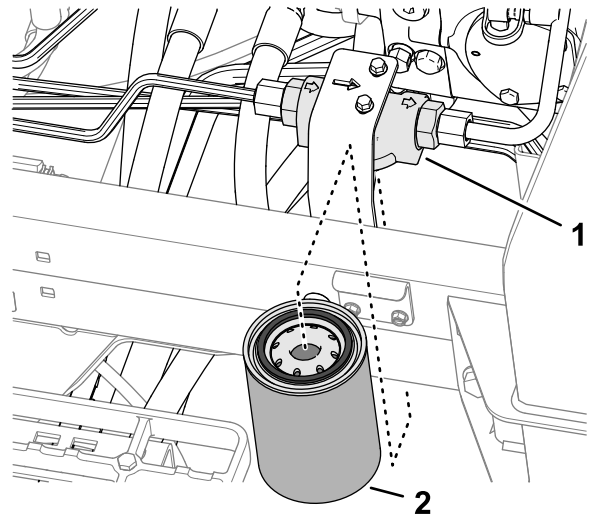

Figure 103
3. At the left side of the machine, align a drain pan under the charge filter (Figure 103).